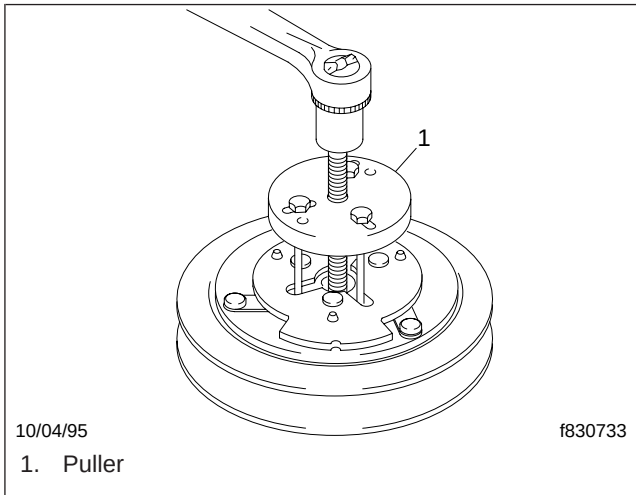

Fig. 4, Removing the Drive Plate
4. Using the drive-plate puller, thread the three puller bolts into the drive plate. Turn the center screw clockwise to loosen and remove the drive plate. See Fig. 4.